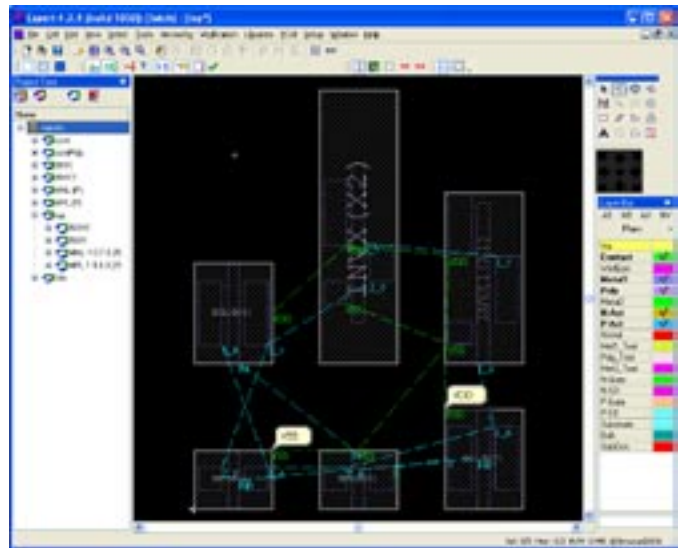

Figure 5. Initial placement with highlighted nets.
9. Click right mouse button at “top” again, then select ‘Create’ command in the pop-up menu. NDL tool uses cells that are already in the project MNL, MPL, INVX and INVX1 to create new cell “top”. MNL and MPL are P-cells, whose instance parameters L and W are selected based on netlist <latch.net>. See Figure 5.
11. After the NDL run, the new cell “top” (or the cell name just chosen by ‘Map’ command) opens automatically. *Expert* shows flight lines to indicate which pins belong to the same net and should be connected to each other, as seen in Figure 5.